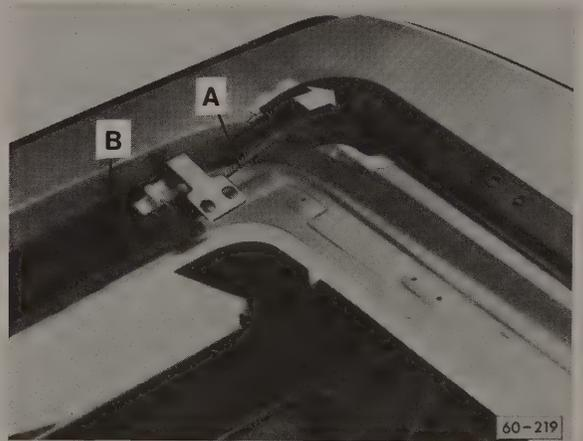

Fig. 7-11. Rear guides with cable assembly (A) being removed from guide rails (B), in direction of arrow.
4. Pull the cable assembly and the rear guides from the guide rails as shown in Fig. 7-11.